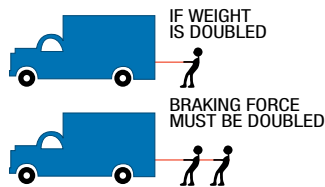

Figure 1
3. **Weight (GVW).** A heavy vehicle, even though it has better traction, needs more time and distance to stop. When the weight is doubled, the amount of force needed to stop the vehicle is doubled, and it will take about twice as long for that vehicle to stop (Figure 1).